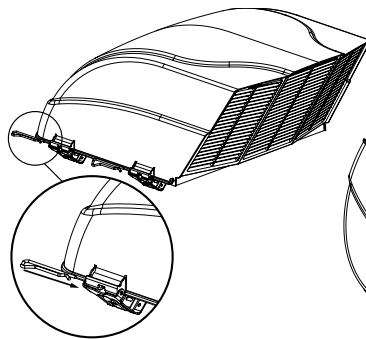

Figure 5
1. Install two (2) brackets to one side of the FANMATE® using two (2) of the EZClip™ pins provided. See Figure 5.